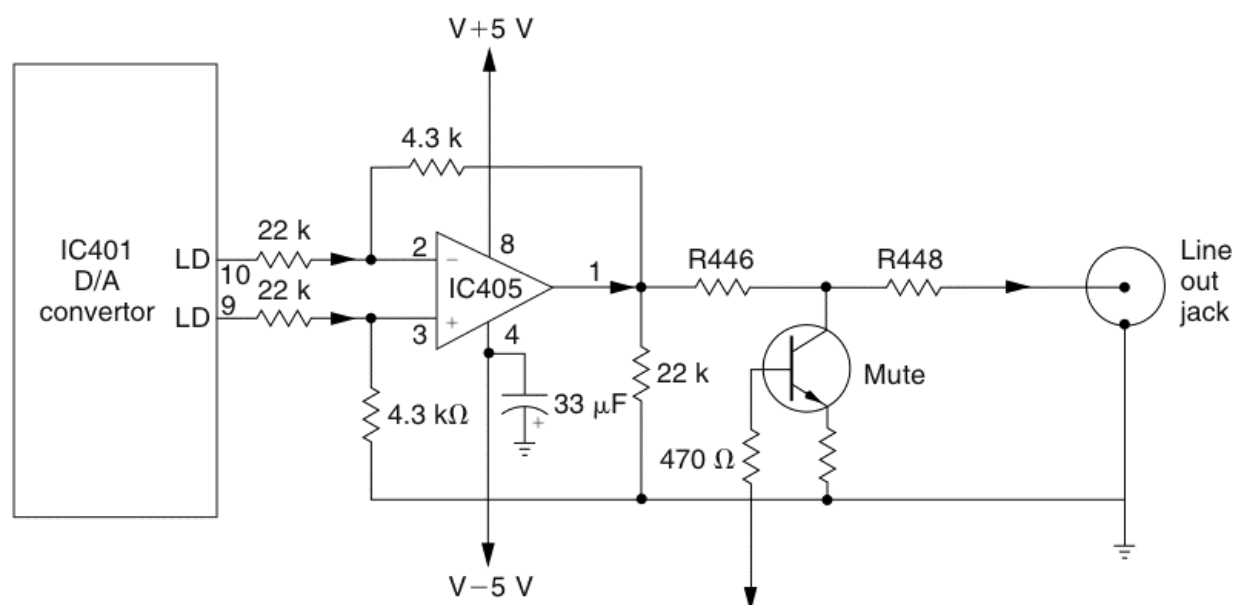

FIGURE 27-20 The D/A and line-output amplifiers in an Optimus CD audio circuit.
verter, while the right channel (RD) is found at pins 5 and 6 (Fig. 27-20). The left-channel audio is fed to pins 2 and 3 of op amp IC405 (1/2), through resistors R436 and R438.